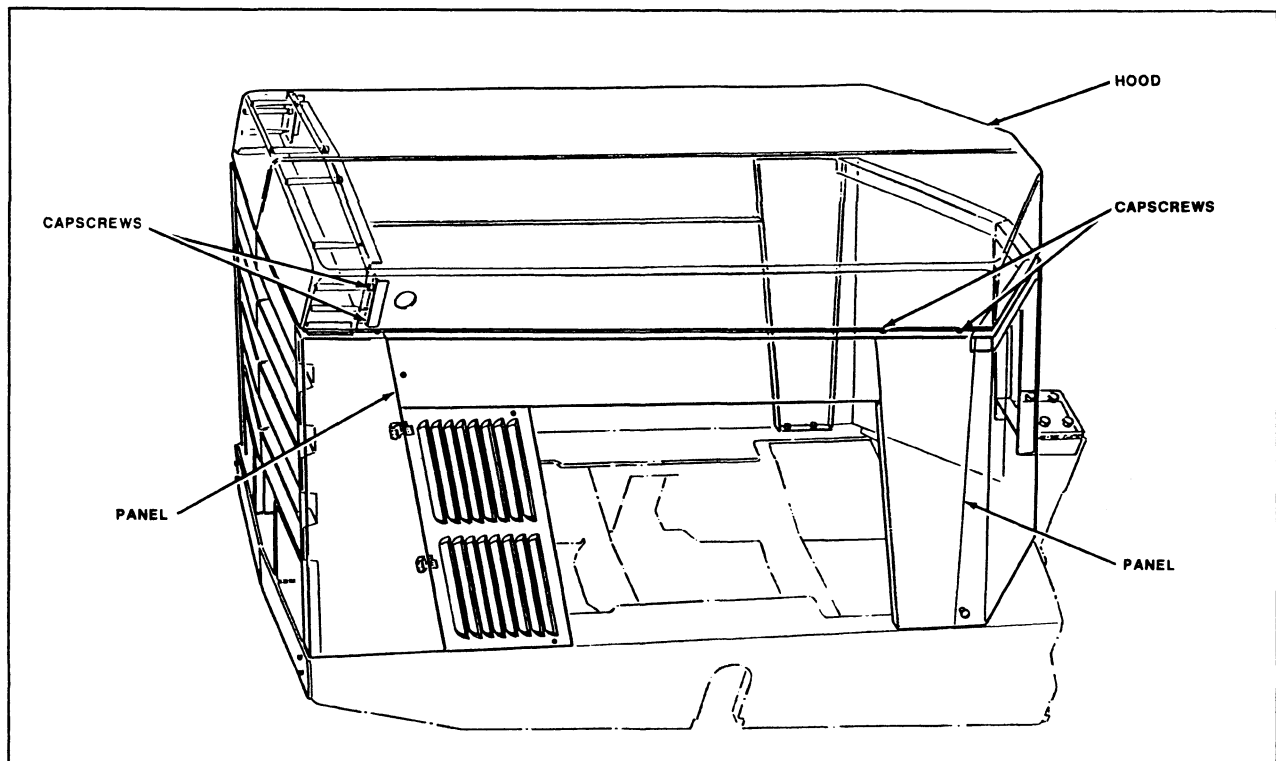

FIGURE 2-4: Engine Panels and Hood Removal
5. Remove fan guards, side panels and hood (Figure 2-4).
13. Install fan (Figure 2-4). Torque capscrews to 24 N.m (18 lbf ft).
16. Install hood, fan guards and side panels (Figure 2-4).